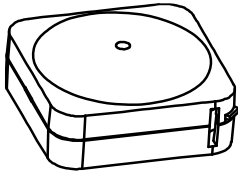

Figure 2
4. Insert the new battery (see Figure 2).